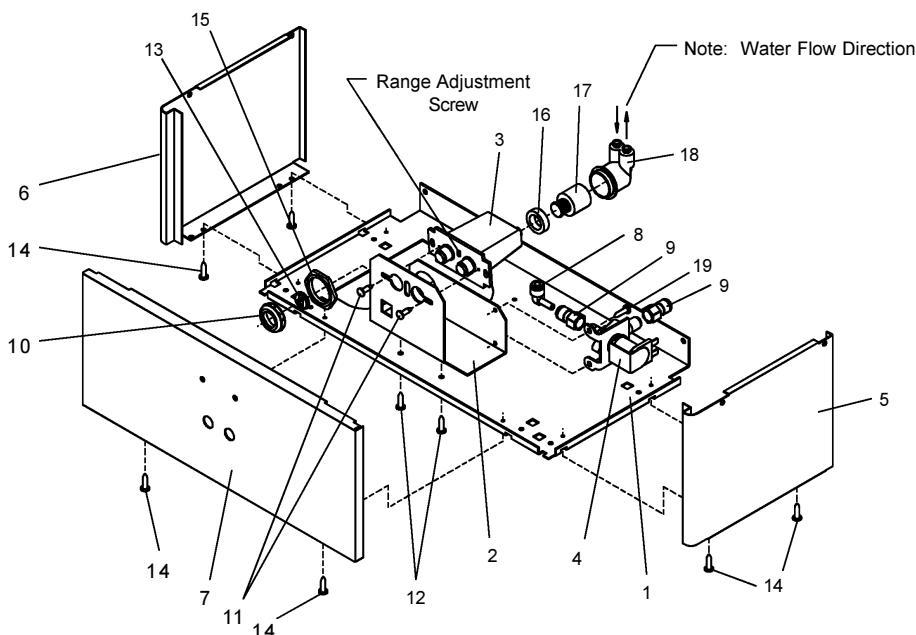

FIG. 3
b. Using a small tip screwdriver, rotate range adjustment screw clockwise to increase range and counter-clockwise to decrease range. (See Fig. 3).
- 8) Stream height is factory set at 35 PSI. If supply pressure varies greatly from this, adjust screw, accessible by removing front panel (Item 7, Fig. 3). CW adjustment will raise stream and CCW adjustment will lower stream. For best adjustment, stream should hit basin approximately 6-1/2" (165mm) from bubbler.
- 9) Replace the front panel and secure by retightening four (4) screws.